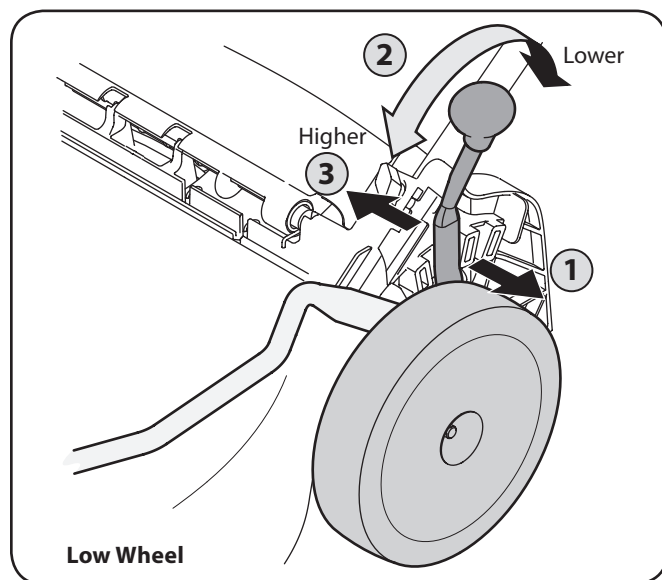

Figure 3-10
2. Slide lever to desired position for a change in cutting height. Refer to Figure 3-10.